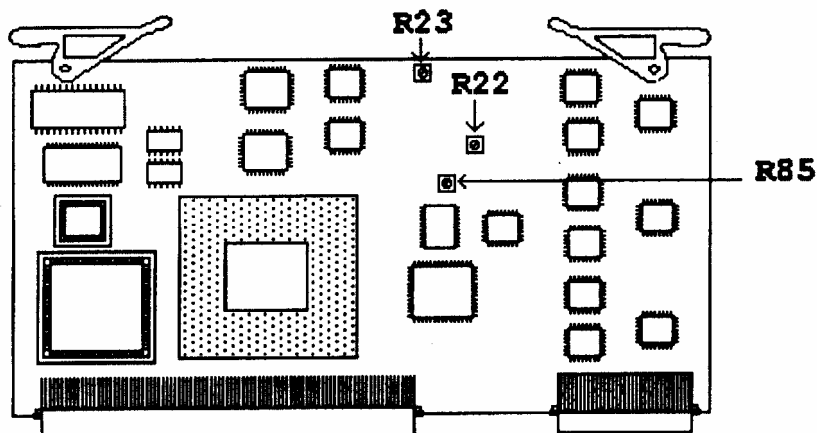

Figure 2. Function generator assembly A24.
(4) Connect multimeter **INPUT HI** and **LO** to **TI AUDIO OUT**. Set multimeter to measure volts dc.
(5) Press **FIELD SELECT ↓** key to select **LEVEL** and press **DATA ENTRY ENTER** key. Press **DATA ENTRY 3 . 1** and **ENTER** keys.
(6) Press **FIELD SELECT ↑** key to select **GEN 1** and press **DATA ENTRY ENTER** key to set **GEN 1 On**.
(7) If multimeter does not indicate  $0.000 \pm .01$  V dc adjust A24R23 (fig. 2) as close as possible.
(8) Press **DATA ENTRY ENTER** key to set **GEN 1 Off**. Press **FIELD SELECT** ↓ key to select **GEN 2** and press **DATA ENTRY ENTER** key to set **GEN 2 On**.
(9) If multimeter does not indicate  $0.000 \pm 0.01$  V dc adjust A24R22 (fig. 2) as close as possible.
(10) Press **DATA ENTRY ENTER** key to set **GEN 2 Off**. Press **FIELD SELECT** ↑ key to select **GEN 1** and press **DATA ENTRY ENTER** key to set **GEN 1 On**.
(11) Press **FIELD SELECT** ↓ key to select **GEN 1 WAVE**, adjust **DATA SCROLL** knob to select **Sine**, and press **DATA ENTRY ENTER** key. Set multimeter to measure volts ac and record multimeter indication (approximately 3.1 V rms).
(12) Press **FIELD SELECT** ↑ key to select **GEN 1** and press **DATA ENTRY ENTER** key to set **GEN 1 Off**.
(13) Press **FIELD SELECT** ↓ key to select **GEN 2 WAVE**, adjust **DATA SCROLL** knob to select **Sine**, and press **DATA ENTRY ENTER** key. Press **FIELD SELECT** ↑ key to select **GEN 2** and press **DATA ENTRY ENTER** key to set **GEN 2 On**.
(14) Adjust A24R85 (fig. 2) for a multimeter indication recorded in (11) above  $\pm 5$  mV (R).
(15) Disconnect multimeter and reconnect to TI and resistance standard set to  $150 \Omega$ .
(16) Press **MODE MTRS** key, **AUX (F6)** key, **DATA ENTRY** key 1 (Calibrations), and press **FIELD SELECT** ↓ key to select **15. Func Gen Level**. Press **DATA ENTRY ENTER** and **DATA ENTRY 1** keys (199.9 mV calibration).
(17) Use **DATA SCROLL** controls to adjust multimeter indication for  $199.0 \pm 1$  mV ac and press **DATA ENTRY ENTER**.
(18) Press **DATA ENTRY 2** key (2.5 V calibration), use **DATA SCROLL** controls to adjust multimeter indication for  $2.500 \pm 0.010$  V ac then press **DATA ENTRY ENTER** key.
(19) Press **ESC (F6)** key, press **FIELD SELECT** ↑ or ↓ key to highlight **8. VRMS Meter**, and press **DATA ENTRY ENTER** key.
(20) Press **DATA ENTRY ENTER** and use **DATA ENTRY** keys to enter multimeter indication to two decimal places, then press **DATA ENTRY ENTER** and **Ret (F5)** keys.
(21) Press **MODE AF GEN** (AF GEN Display) key; when prompted for backup data, press **SHIFT** and **Y** keys (Backup Cal Data ? y/n).
(22) Disconnect test equipment, press **TI POWER** key off, remove frequency generator assembly and extender card, and reinstall frequency generator assembly in proper slot. Press **TI POWER** key ON.